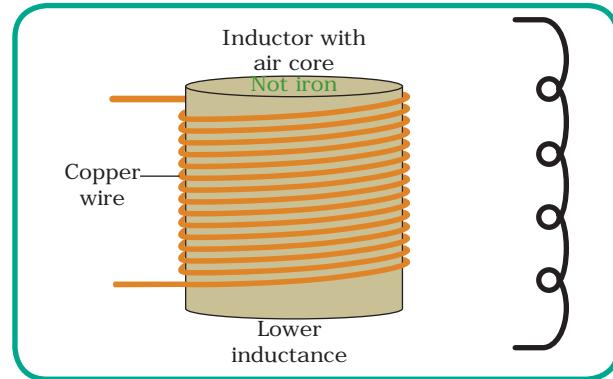

Figure 2.8 Air Core Inductors
**Air Core Inductors:** Air core inductors consist of a few turns of wire wound on a hollow former. In radio frequency applications, where a very low value of inductance is required, air core inductors are generally used. It is shown in Figure 2.8.